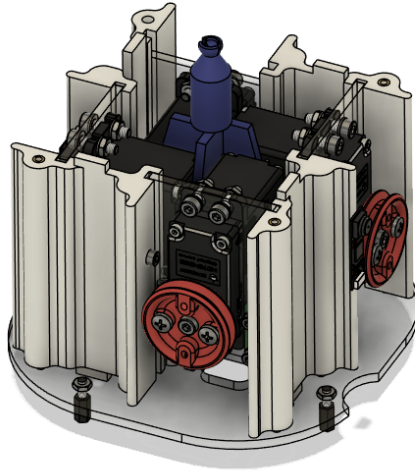

Figure 11: BasePlate with the Side Supports, servo assemblies, CentreSupport, and mounting standoffs installed.
6. Add the 3 8mm standoffs under BasePlate for mounting the Electronics Plate. Reference Figure 11.